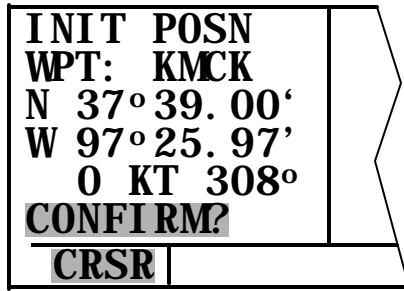

Figure 3D-80. Setup 1 Page
b. **The Setup 1 Page.** The Setup 1 page is used to manually update the position of the KLN 90B and enter a groundspeed for use of the KLN 90B in the take home mode. Refer to Figure 3D-80. Since the KLN 90B stores its position and other required parameters in memory when power to the unit is removed, it is seldom necessary to aid the unit in reaching a NAV ready status. In order for the unit to reach a NAV ready condition, it is necessary to meet the same conditions outlined in Paragraph 3D-7, Initialization.